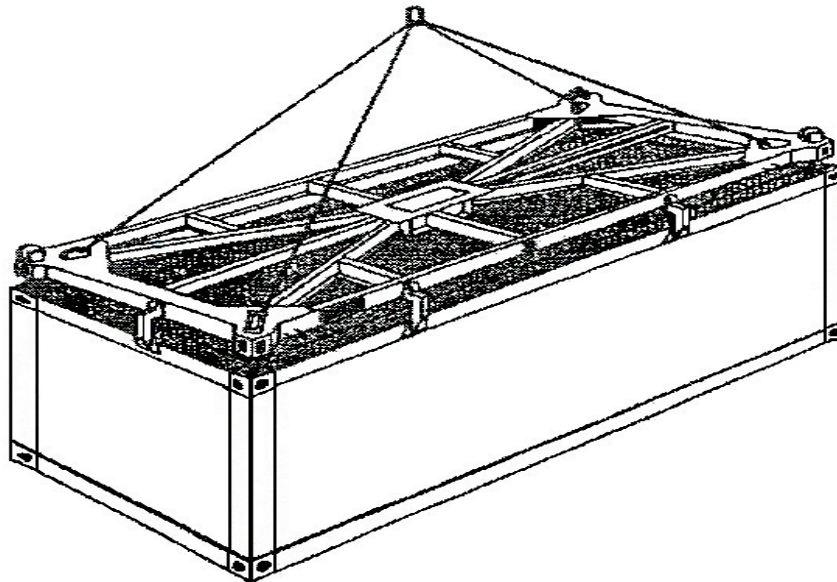
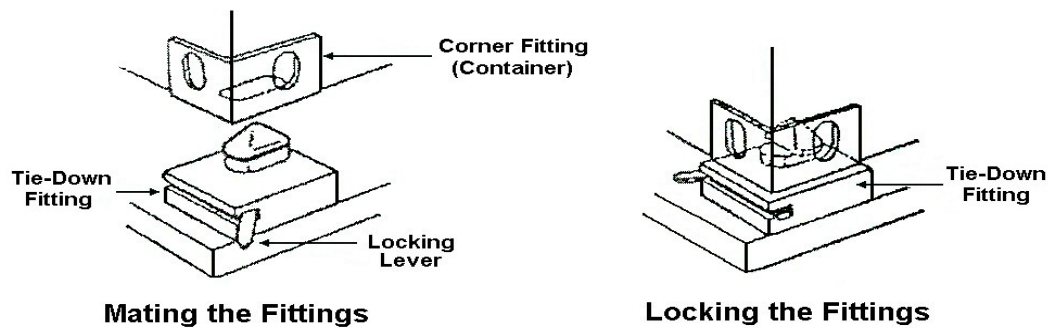

Figure 3-44
Figure 3-45
- e. Attach semi-automatic toplift spreader device to the container (see Figure 3-44).
- (1) Attach the toplift spreader to the cargo hook.
- (2) Signal the crane operator to hoist the toplift spreader.
- (3) Signal the crane operator to lower the spreader device, which has tag lines attached, onto the container.
- (4) Secure the device to the four corners of the container (see Figure 3-45).
- (5) Engage twist locks.
- (6) Disengage the container bottom twist locks.
- (7) Signal the crane operator to hoist the container.